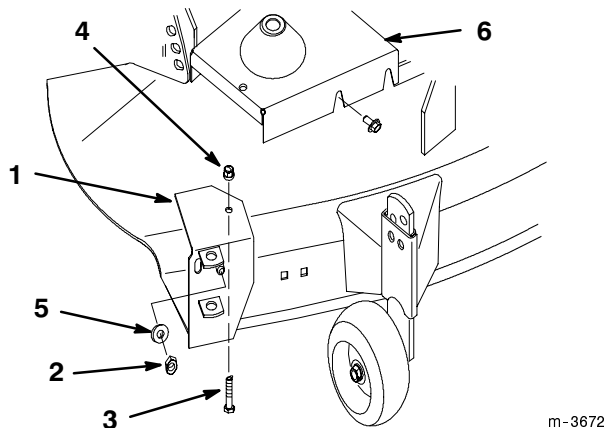

Figure 30
1. Remove the pivot support and pivot bracket from the mower (Fig. 30).
2. Install the previously removed hardware in the open hole of the mower for safety (Fig. 30).
3. Install the mower belt cover using existing hardware (Fig. 30).